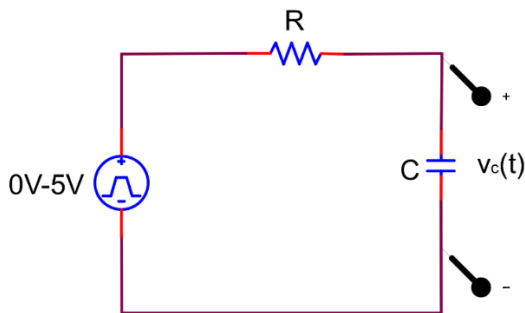
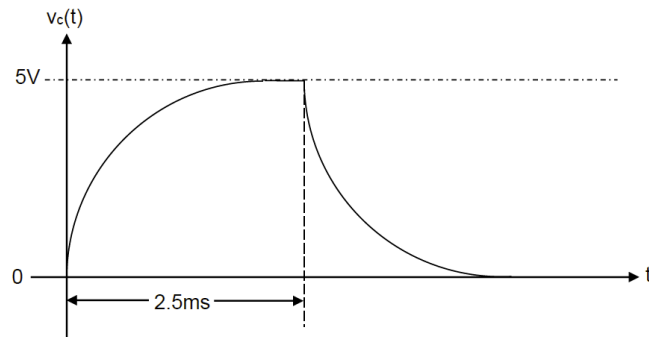
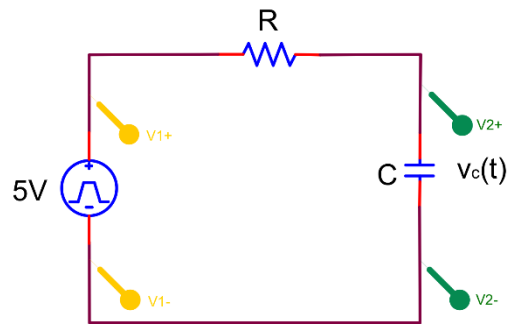

Figure 11.1
Figure 11.2
Figure 11.3
1. Using the circuit shown in Figure 11.1, choose values for R and C that will duplicate the waveform shown in Figure 11.2.
1. Construct Figure 11.3 and measure the voltage across the capacitor at which the wave form on the oscilloscope matches Figure 11.2.
- Build and simulate Figure 11.3. On the graph display the V_{pp} and 5τ of the wave form.